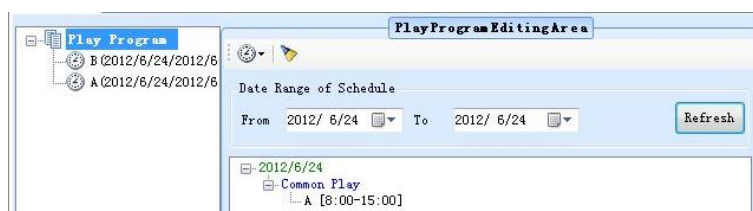

Fig. 10-12 A has higher priority than B
- If D is at the back of C in the play program, then D has the priority to be played at the same time point (15:00). The dispatching results will be shown as Fig. 10-12 (In June 24, 2012).